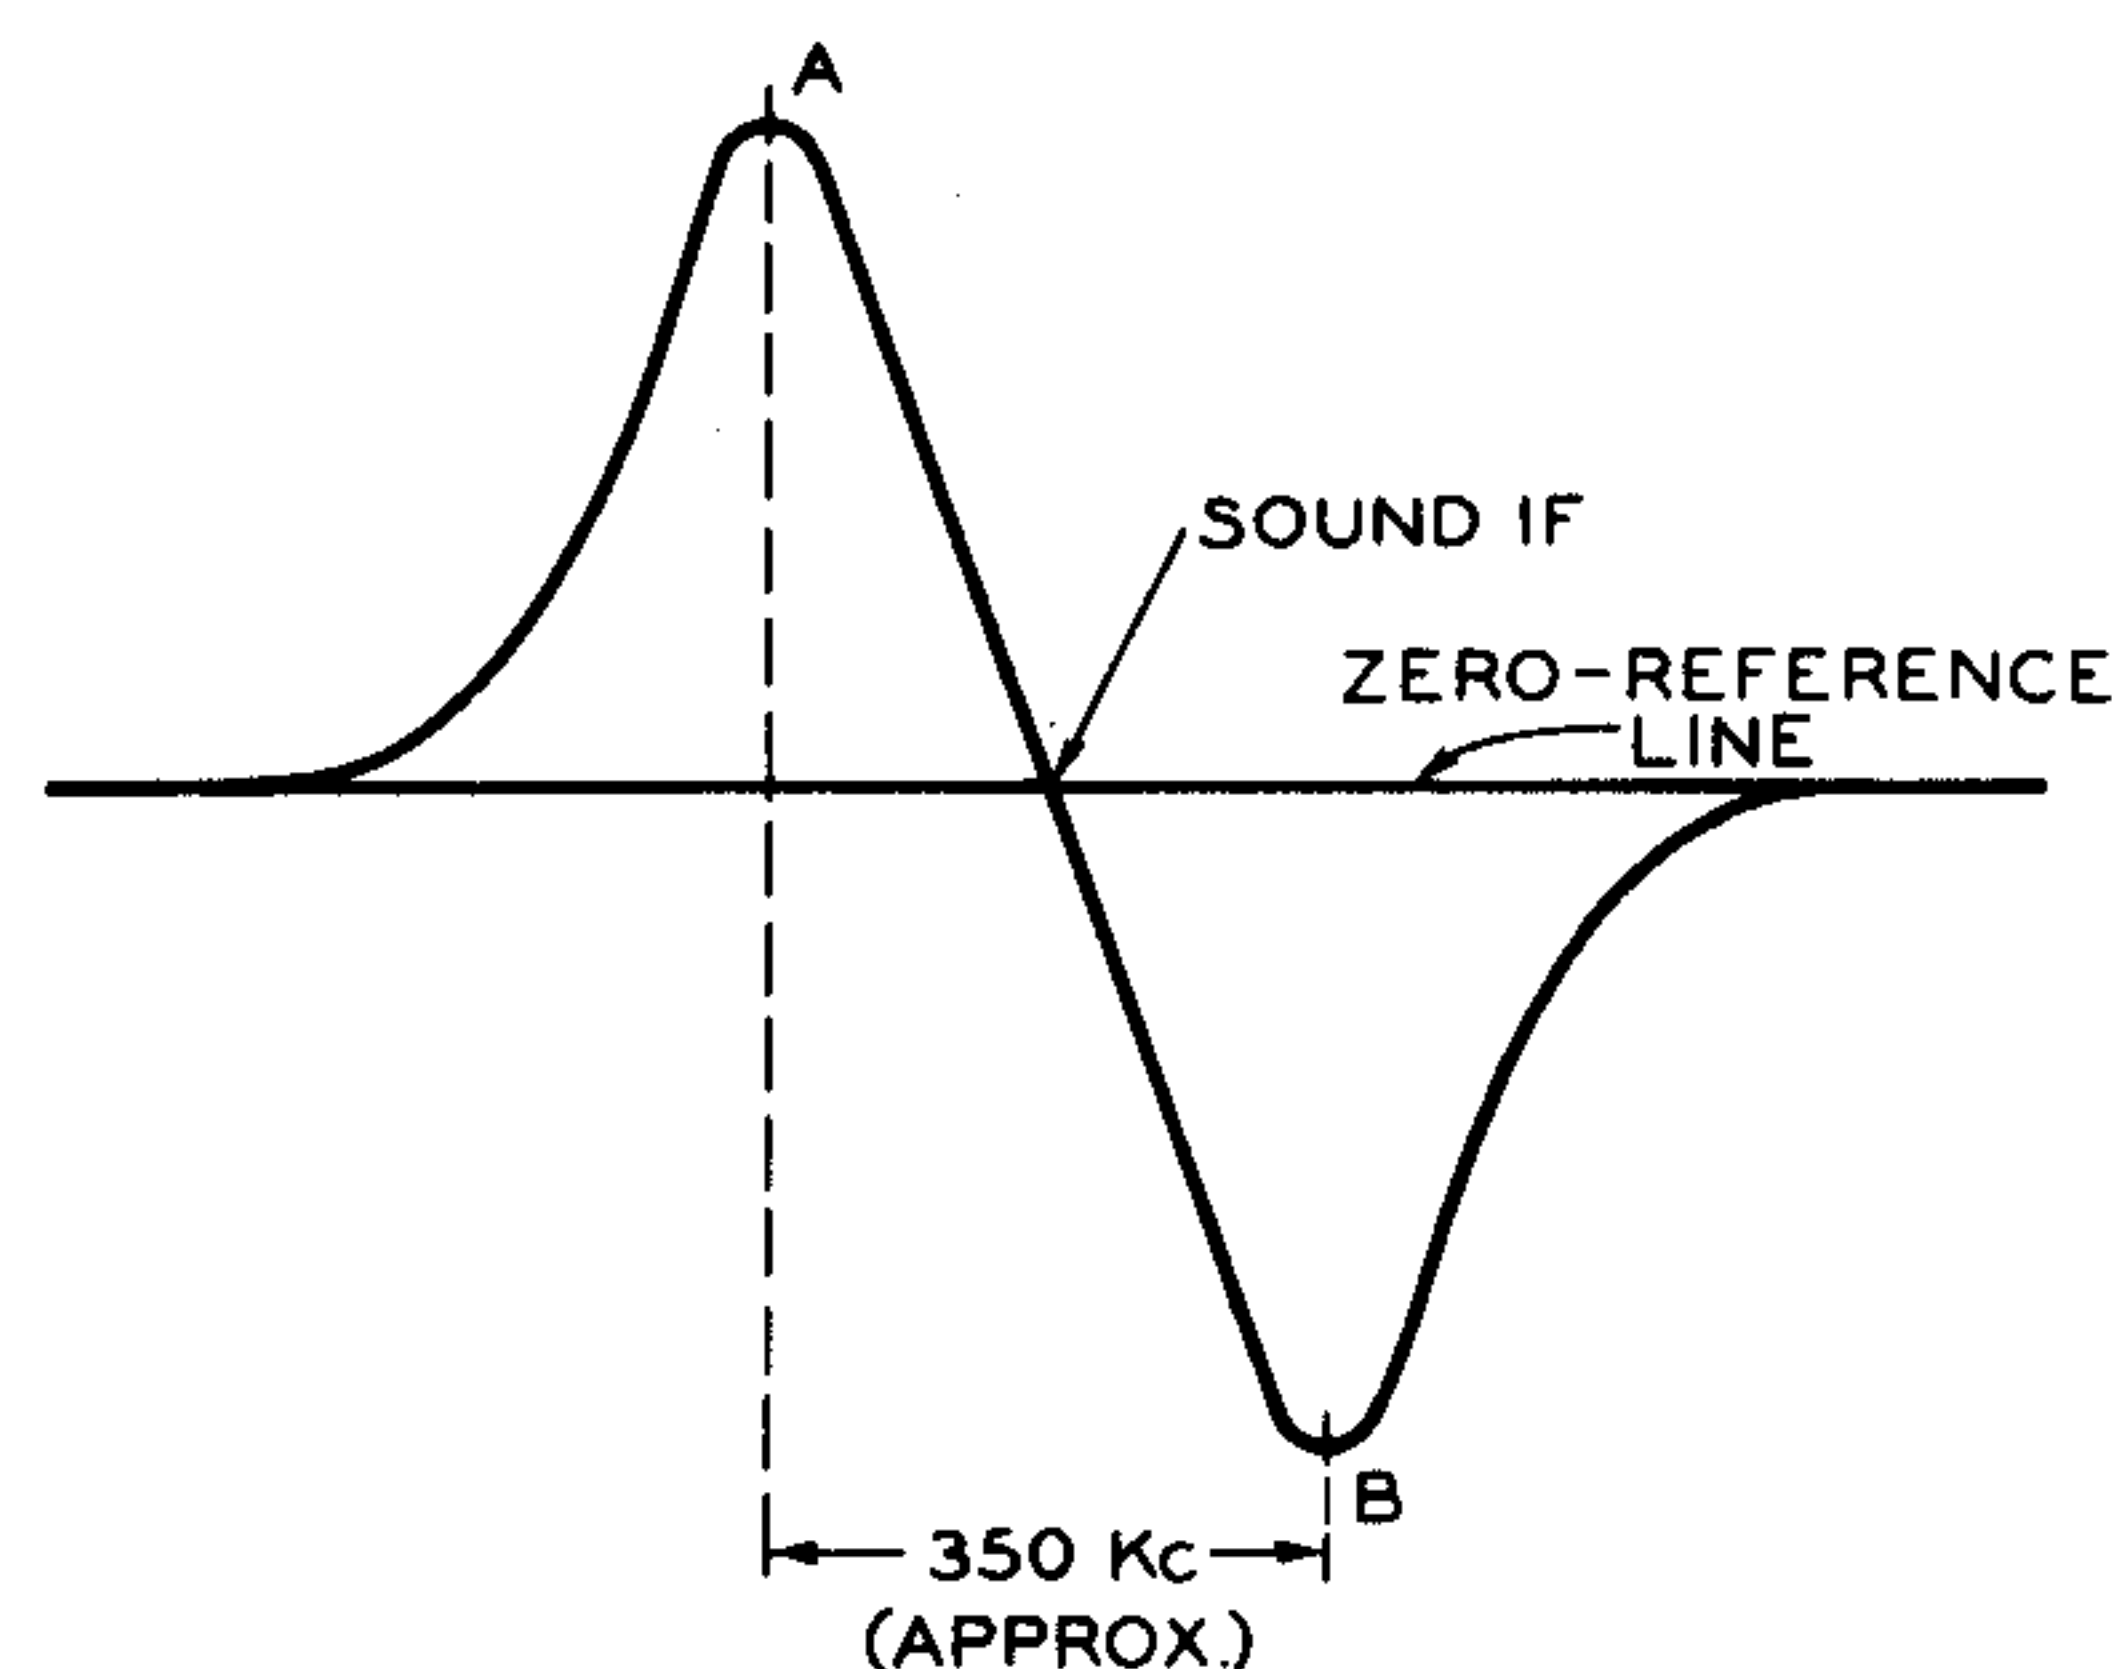

Figure 11. Discriminator Response
9. The ideal response of a discriminator which has been properly aligned is illustrated in Figure 11. The television calibrator is used to check the points on the curve at which the various sweep frequencies appear. The sound-if point should appear at the intersection of the response curve and the zero-reference line. Tune the primary and secondary of the discriminator transformer for maximum amplitude, maximum linearity between points A and B, Figure 11, and symmetry about the zero-reference line.